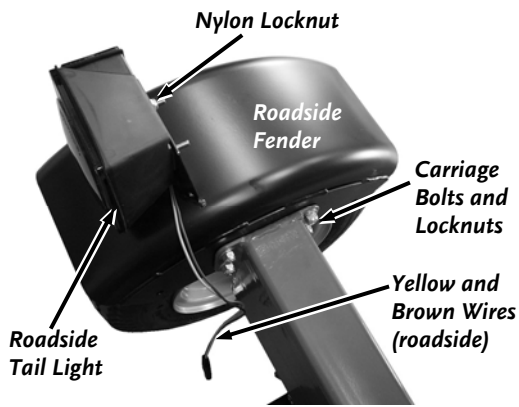

Figure 40
18. Assemble the Fenders to the Frame with eight 5/16-18 x 3/4" Carriage Bolts (fender side) and Locknuts using a 1/2" Wrench (**Figure 40**).